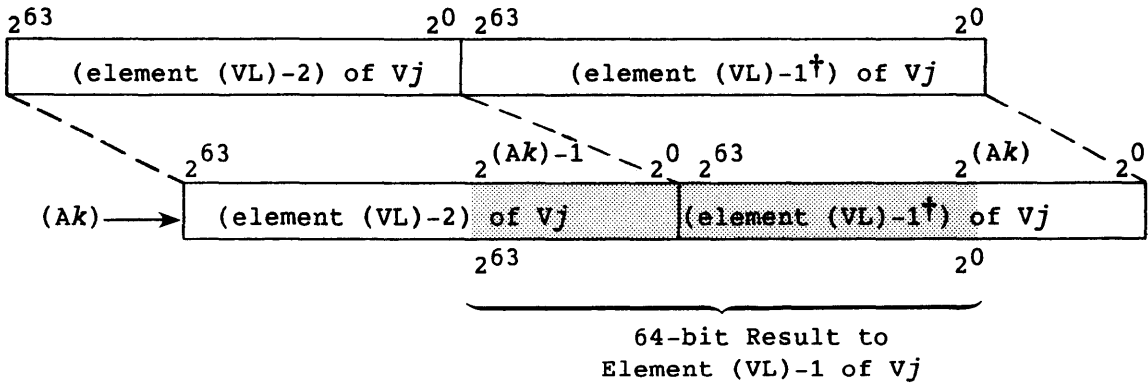

Figure 5-12. Vector Right Double Shift, Last Operation
The last operation performed by the instruction joins the last element of V_j as determined by (VL) with the preceding element. Figure 5-12 show this operation.